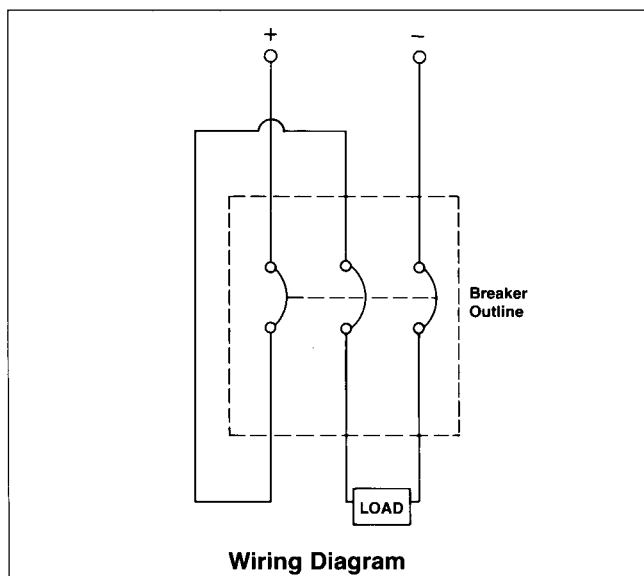

Figure 1
① Meets requirements of IEC 157-1 (P1).
② For 500V dc applications the customer's power supply and load must be wired as shown (Figure 1).
③ CMD6 and CND6 type circuit breakers are current limiting at 240V ac 480V ac.